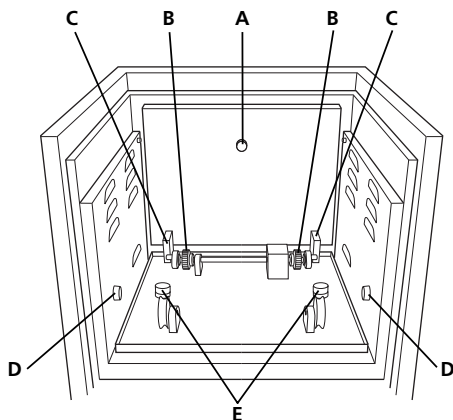

Fig 4: SI30H incubator
- 5.4 Place the rotisserie into the incubator onto the rotation mechanism, ensuring that the serrated bands at either end of the rotisserie locate onto the steel cogs of the rotation mechanism at the rear of the incubator (B on figure 4). The plastic flanges of the rotisserie locate on to the small wheels on the incubator floor. Close the incubator door.
- 6.2 Lift the platform by its handle (A on figure 4) from its storage position, slide it forward and locate it on the rocking mechanism by placing the side pegs of the platform into the retainers (D) on the side walls of the incubator chamber.